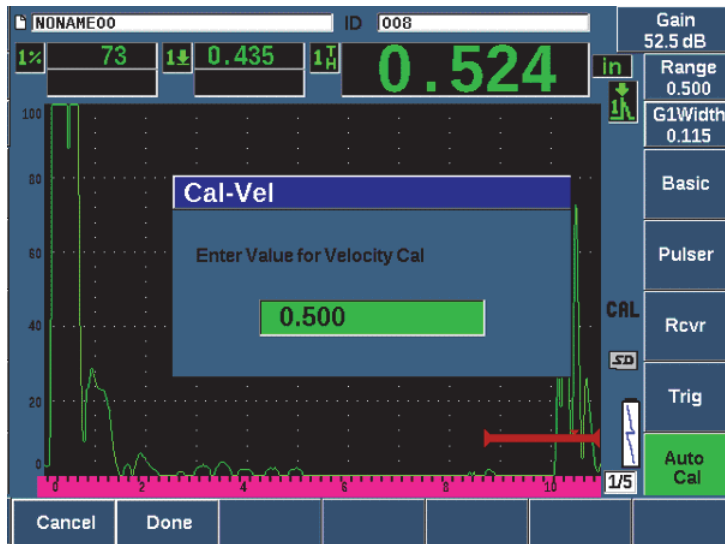

Figure 9-9 Entering the Velocity Cal thickness value
16. In the **Cal-Vel** box, adjust the value to match the known thickness of the gated indication (0.500 in. in this example), and then choose **Done** to complete the calibration process (see Figure 9-9 on page 168).